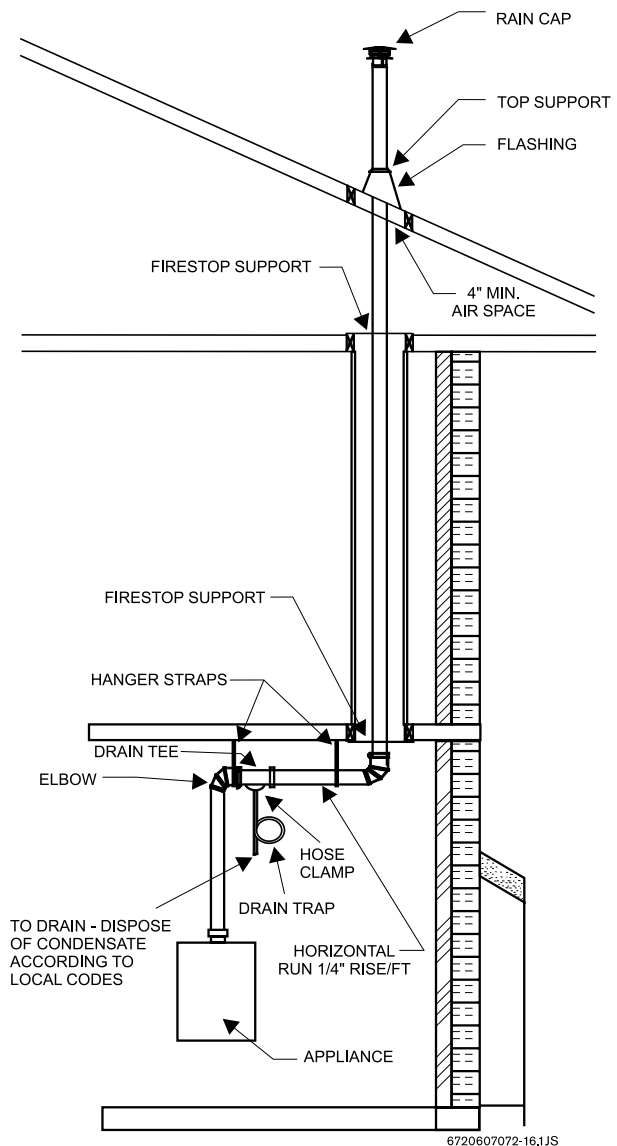
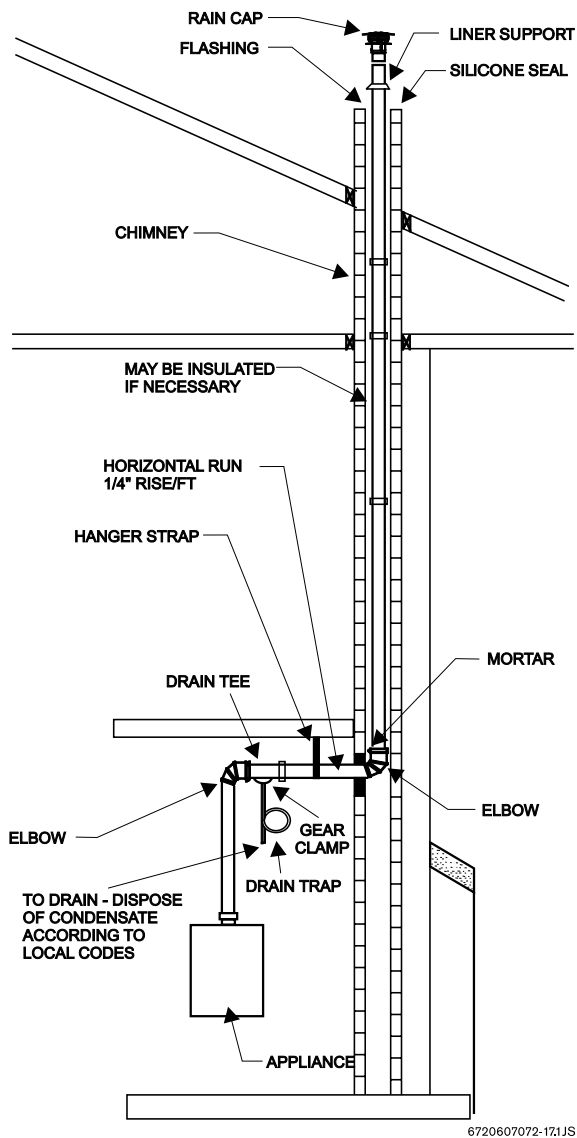

Fig. 19 Vertical venting installation (combustion air piping not being shown)
Fig. 20 Vertical venting installation - Masonry Chimney (combustion air piping not being shown)
- ▶ A condensate trap must be used for any vertical exhaust installations. See Drain Tee position options in Fig. 19 and Fig. 20.